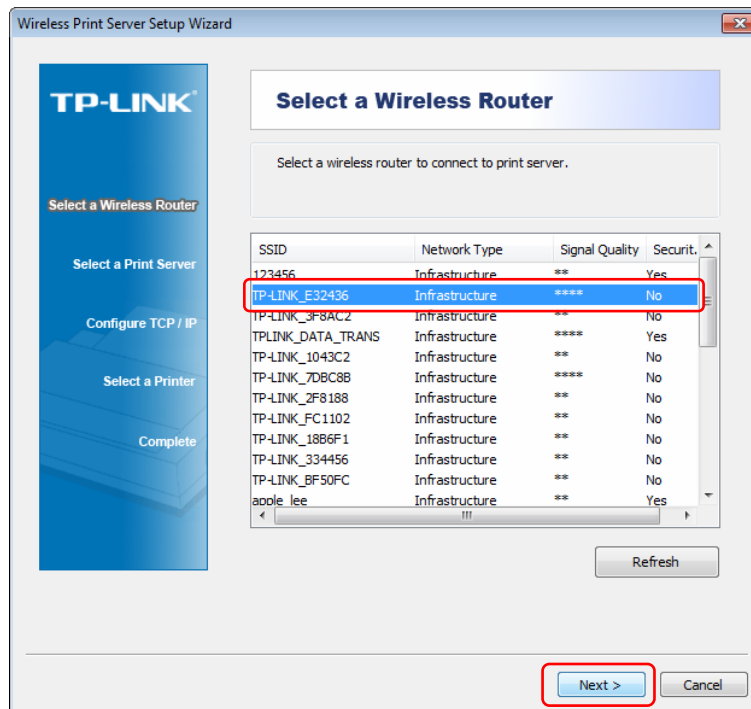

Figure 3-4
4. Then the Wireless Print Server Setup Wizard will appear as shown in Figure 3-4. Select the wireless router to connect to the print server and click “**Next**”.